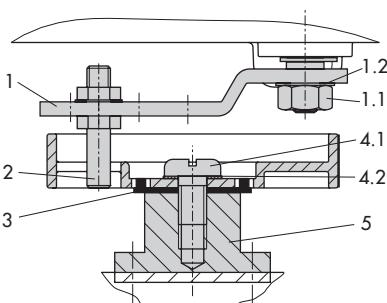

Fig. 10: Mounting the coupling wheel on Type 3278
**Legend for Fig. 10
- 3 Follower clamp (Fig. 10)